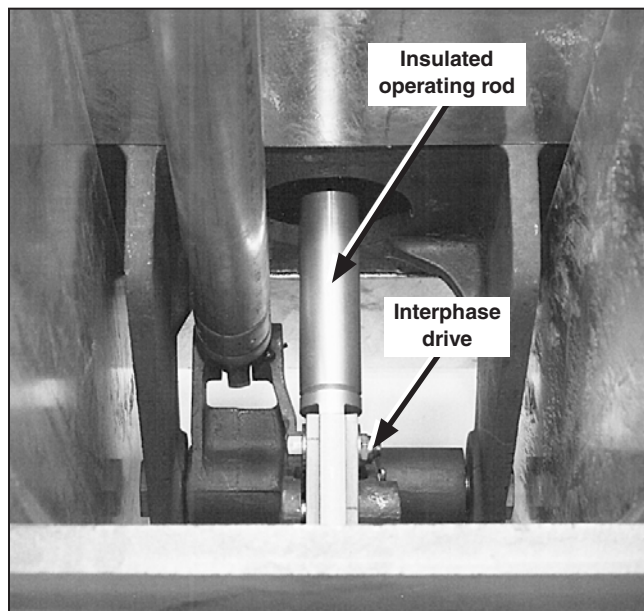

Figure 20. Make sure each insulated operating rod has been connected to the interphase drive.
- Each insulated operating rod is connected to the interphase drive (see Figure 20 on page 23)